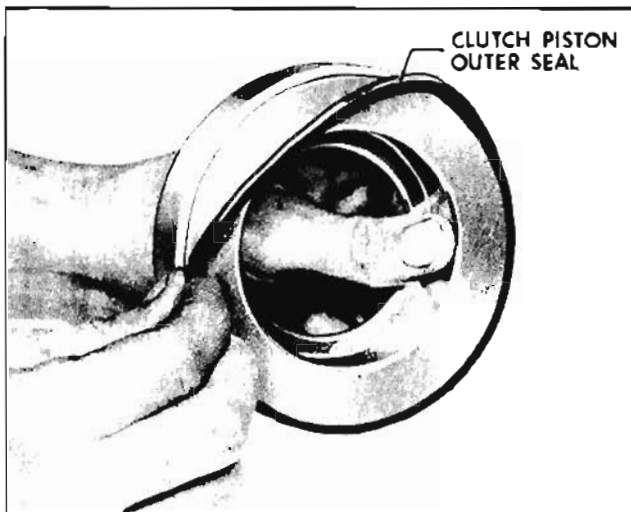

Fig. 6-355 Removing Outer Seal
10. Examine forward clutch piston outer seal. If nicked, torn or worn, remove seal. (Fig. 6-355)